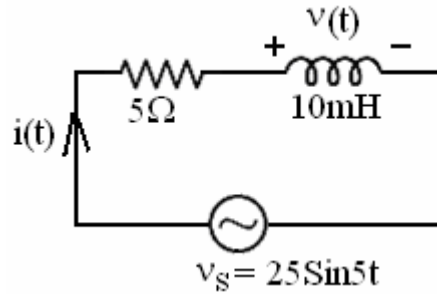

Figure 5
- b) Find $V(t)$ and $i(t)$ in the below circuit diagram (shown in Figure 5). [7+8]